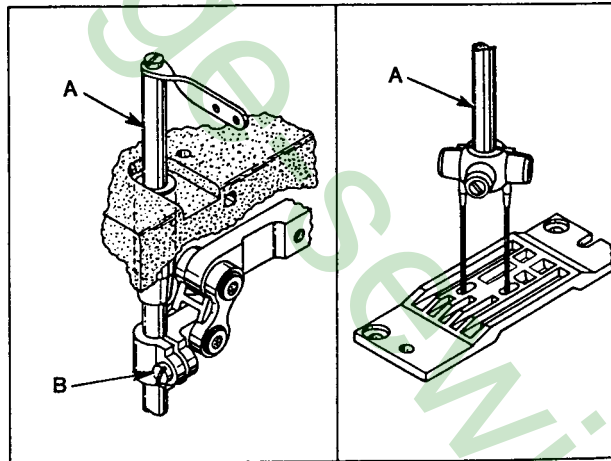
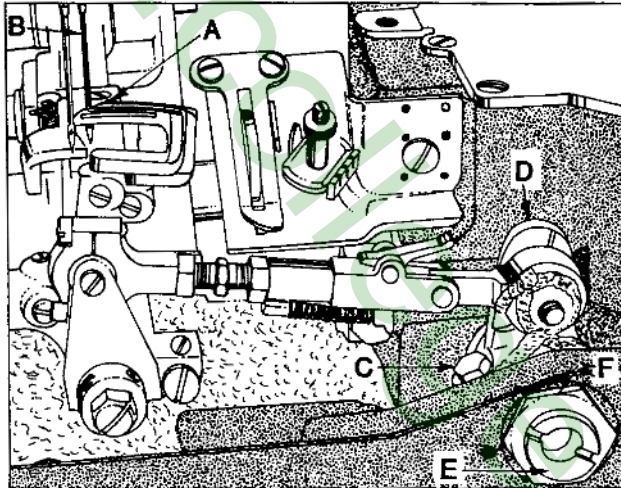
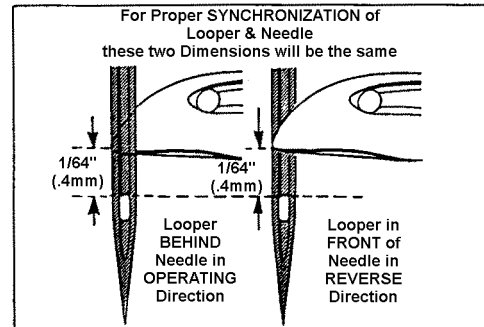

Fig. 3
Fig. 4
Fig. 5
Insert a new set of needles (type and size required). Turn handwheel to bring needle bar (A, Fig. 3) down to ensure that needles center in needle holes of throat plate as shown in Fig. 3. Adjustment can be made by loosening screw (B) slightly, allowing needle bar to be turned as required. Tighten clamp screw.
Insert looper into the looper rocker, pushing it all the way down and tighten screw against flat on shank of looper. Turn handwheel in operating direction until the point of the looper (A, Fig. 4) moving to the left, is even with the left side of the right needle (B). Note the height of the eye of the needle with respect to the looper point (See Fig. 5). Turn the handwheel in the reverse direction until the point of looper, again moving to the left, is even with the left side of right needle (See Fig. 5). If the height of the eye of the needle with respect to the looper point are the same, looper and needle motions are synchronized. A variation of .005 inch (.127 mm) is allowable. If the distance from the eye of the needle to the point of the looper is greater when the handwheel is turned in the operating direction, the looper drive lever rocker shaft will have to be moved slightly towards the rear. Moving the shaft towards the front acts the reverse.
NOTE: The 1/64 inch (.4mm) dimension shown in Fig. 5 is for final setting of needle bar height.
Loosen screw (C, Fig. 4) in looper drive lever (D). A rod of .146-40 thread or Union Special Screw No. 22870A can be threaded into the looper drive lever rocker shaft through the center of thrust adjusting screw (E). Tap or pull slightly as required to position shaft for proper synchronization. Tighten screw (C) securely and remove rod or screw used to position shaft. Loosen lock nut (F) and torque thrust adjusting screw (E) to 6 in. lbs. (7cm/kg); retighten lock nut (F) securely.
The height of the needle is correct when the top of its eye is 1/64 to 1/32 inch (.4 - .8mm) below the underside of the looper, when the looper point flush with the left side of the needle as shown in Fig. 5. If adjustment is necessary, loosen screw (B, Fig. 3) and move needle bar (A) up or down as required and retighten screw. Care should be taken not to disturb alignment of needle bar when moving the needle bar either up or down. The descending needles must be deflected alike on the back of the loopers.